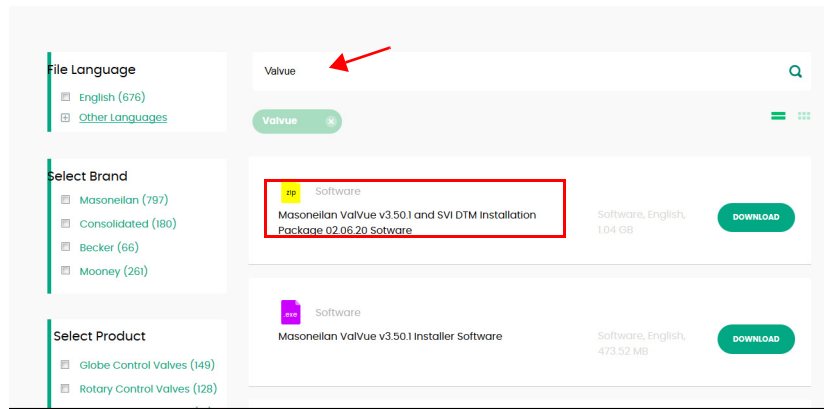

Figure 11 Resource Center: Search for Valve 3
1. Go to the *Resource Library* (<https://valves.bakerhughes.com/resource-center>) and enter *ValVue* in the search field (arrow in Figure 11).
The results appear (red box in Figure 11).